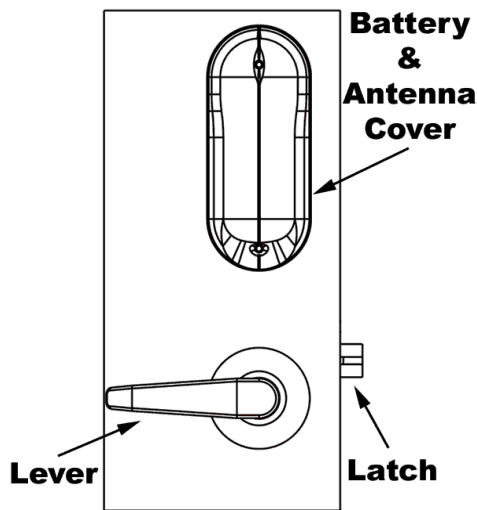
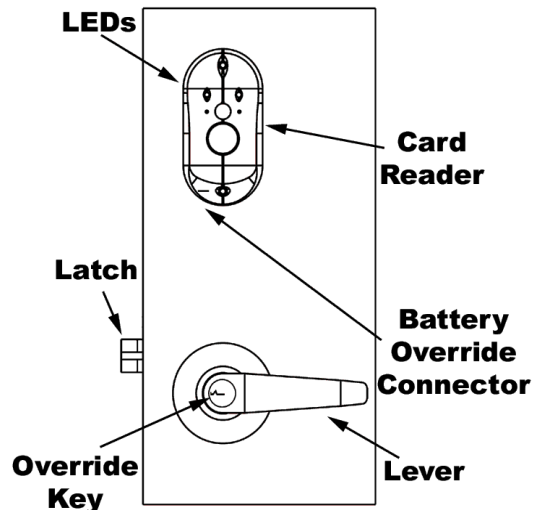
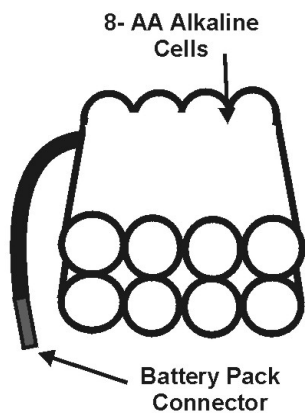
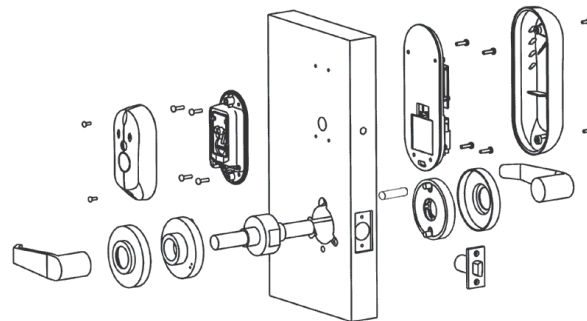

Figure 1-2 – Unlocked Side of the MIRL (Transceiver side)
Figure 1-3 – Locked Side of the MIRL (Reader Side)
Figure 1-4 –MIRL Battery Pack
Figure 1-5 – Exploded MIRL
The MIRL Standard Cylindrical includes 7 components (Figure 1-2, Figure 1-3, Figure 1-4, and Figure 1-5):
The mounting location of the MIRL is fixed by the location of the door. Best RF performance is achieved when the MIRL Antenna Cover (Figure 1-2) can never be within 4" of any metal object whether the door is closed or open. This does not include any metal that maybe in the door or door frame. The MIRL Antenna Cover is located just above the Cylindrical Lockset on the unlocked side of the door (Figure 1-2).
- 2.5.1.1.4 On the side of the door where the reader is to be installed, write the word "READER" on only that piece of masking tape (Figure 1-3).
- 2.5.1.1.5 On the other side of the door, write the word "TRANSCEIVER" on only that piece of masking tape (Figure 1-2).